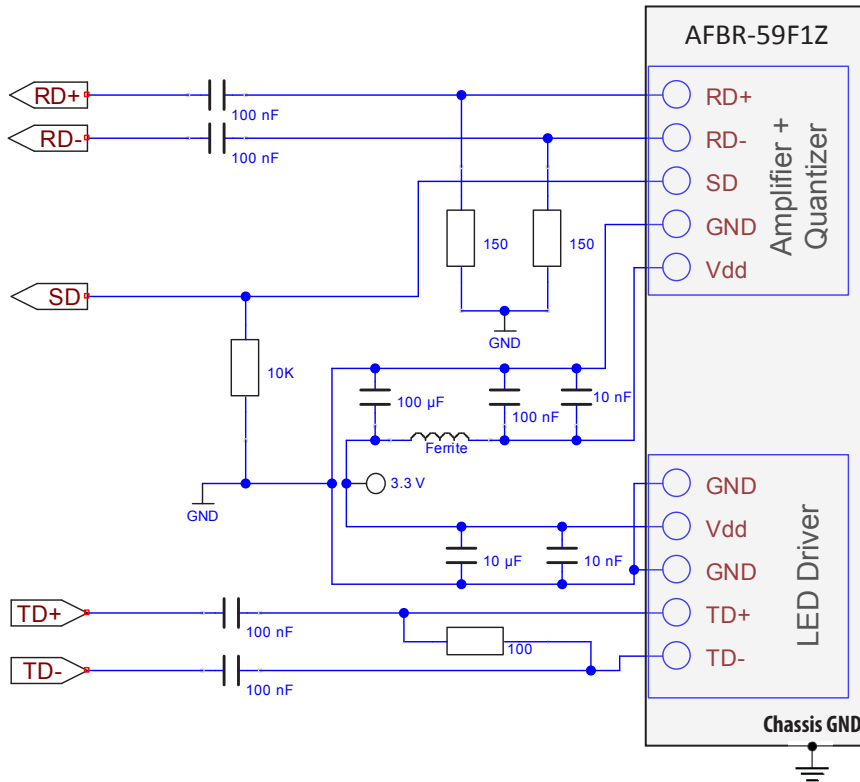

Figure 3. General Application Circuit
6. Termination as shown in figure 3
The recommended application circuit is shown in figure 3.
Figure 3 shows the minimum external circuitry between AFBR-59F1Z transceiver module and PHY chip. Please use the product information of the actual PHY chip for connecting to the AFBR-59F1Z.